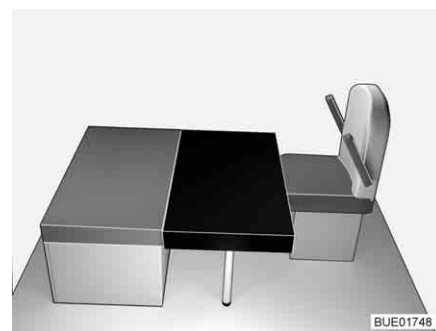

Fig. 137 After conversion
- Place the rectangular additional cushion on the table (in front of the seat cushion of the bench, see Fig. 137). When doing so, the cutout in the additional cushion is located on the frontal supporting wall.